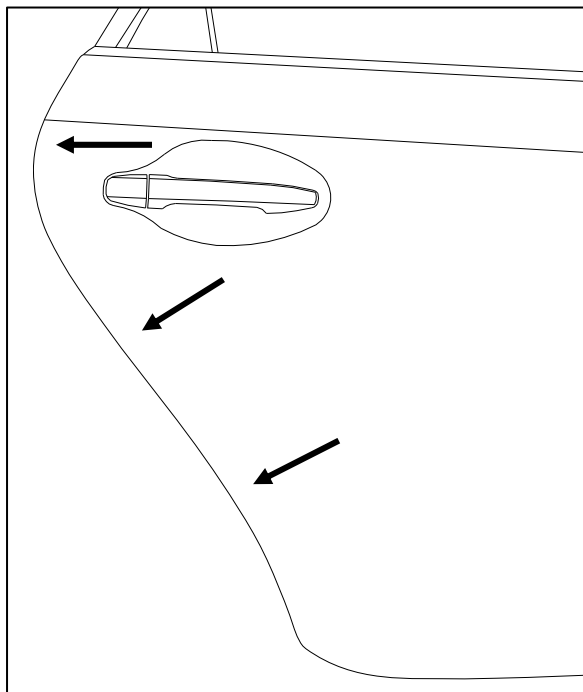

Fig. 1-7
- (k) Open rear passenger door and clean and dry trailing edge of door as needed with distilled water and lint free towel. (Fig. 1-7)